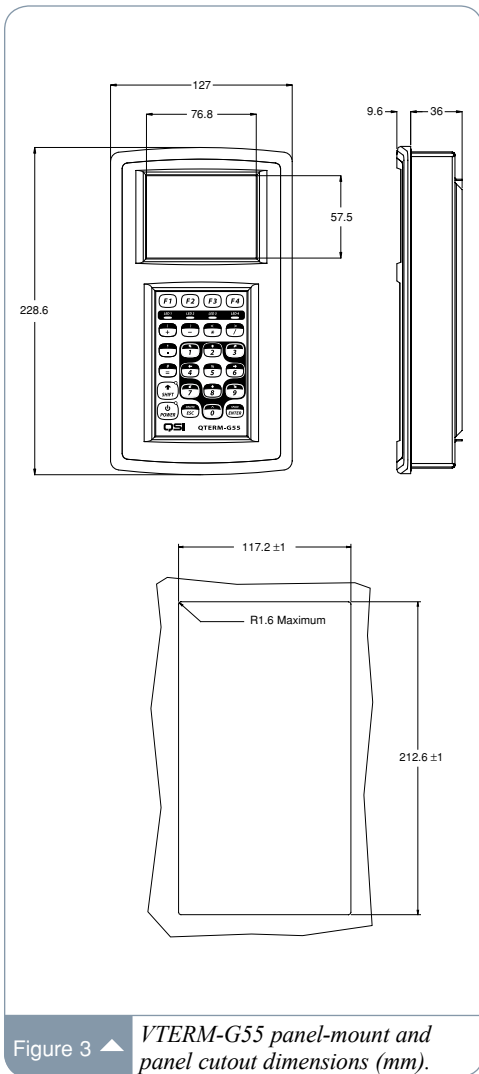

Figure 3 ▲ *VTERM-G55 panel-mount and panel cutout dimensions (mm).*
**HOUSING:** The VTERM-G55 handheld is made of an ABS polycarbonate plastic with an overmolded rubber boot for comfort and shock protection. The case meets NEMA-12 standards and can optionally be configured to meet NEMA-4 specifications for hose-down, icing and salt spray. See Figure 3 for dimensions.